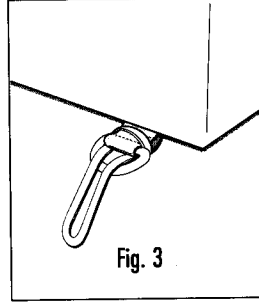

Fig. 3
- Fig. 3 - Pull tight and peg as normal.